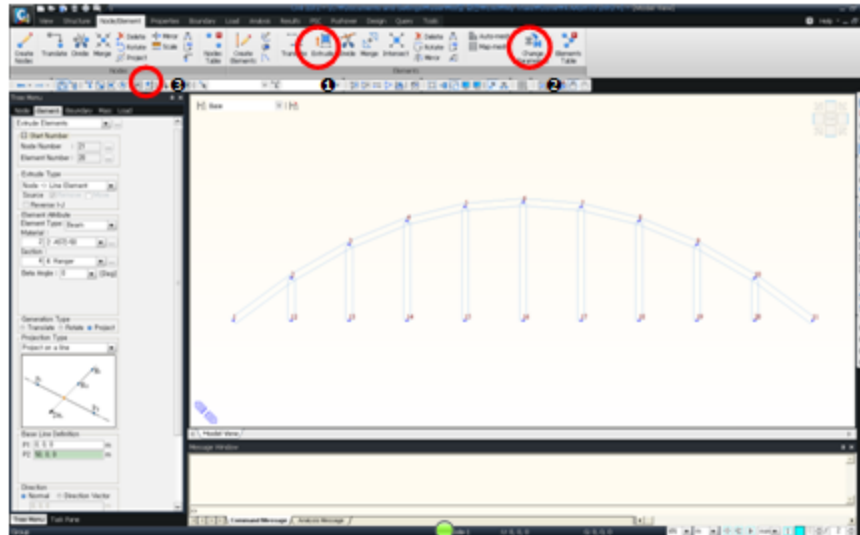

Figure 4.8 Hanger Generation..
The arch shape (parabola/ellipse with equal/ equal-projected spacing) can be selected in the Type field of the Input & Edit tab. Considering the hangers at an equal spacing, select "Parabola1" to set the nodes on the arch rib at an equal spacing projected on a horizontal line (Figure 4.8).
Use  **Extrude Elements** to generate the hangers. Extend the nodes generated on the arch rib by projecting them perpendicularly downward (Figure 4.8).
1. Click  **Extrude Elements** in *Node/Element > Elements > Extrude* from the Main Menu (Figure 4.8①).
13. Click  **Change Element Parameters** (Figure 4.8②).
14. Click  **Select Recent Entities** (Figure 4.8③).